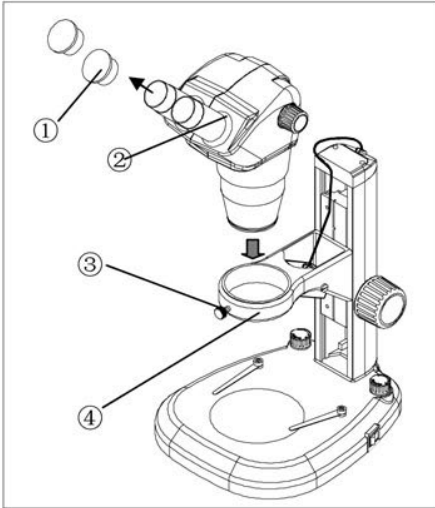
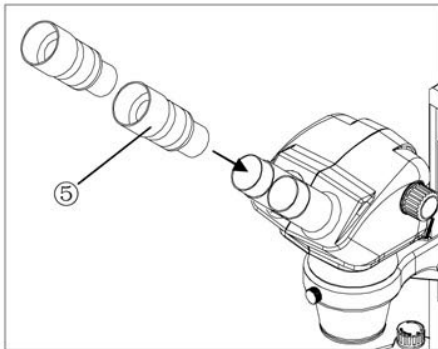
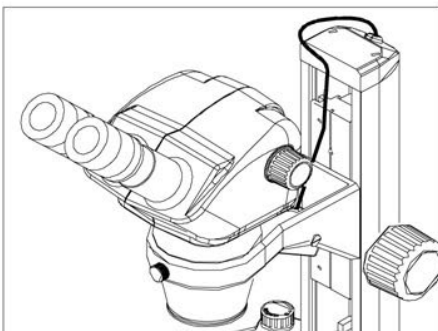

Fig. 1
Fig. 2
Fig. 3
Mounting the Binocular Head (Fig. 1)
Mounting the Eyepieces (Fig. 1, Fig. 2, Fig. 3)
Remove the eyepiece dust caps ① (Fig. 1) and gently insert the two adjustable eyepieces ⑤ (Fig. 2) into the eyepiece sleeves until they stop, as shown in Fig.3. Replace the dust caps when not in use.